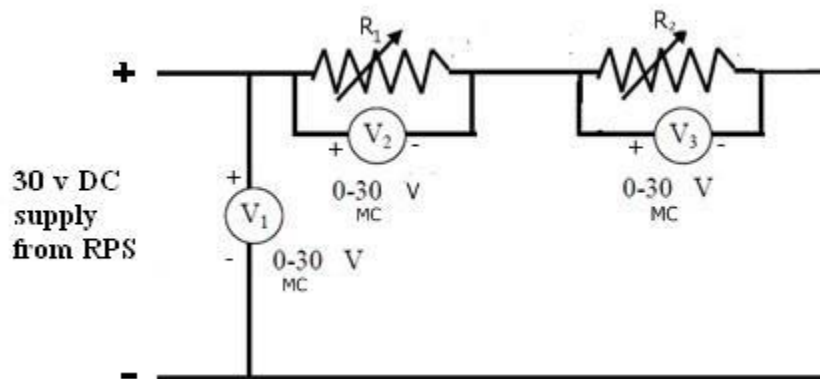

Fig.2
1. Arrange all the resistors on the bread board as per the circuit diagram of Fig.2.